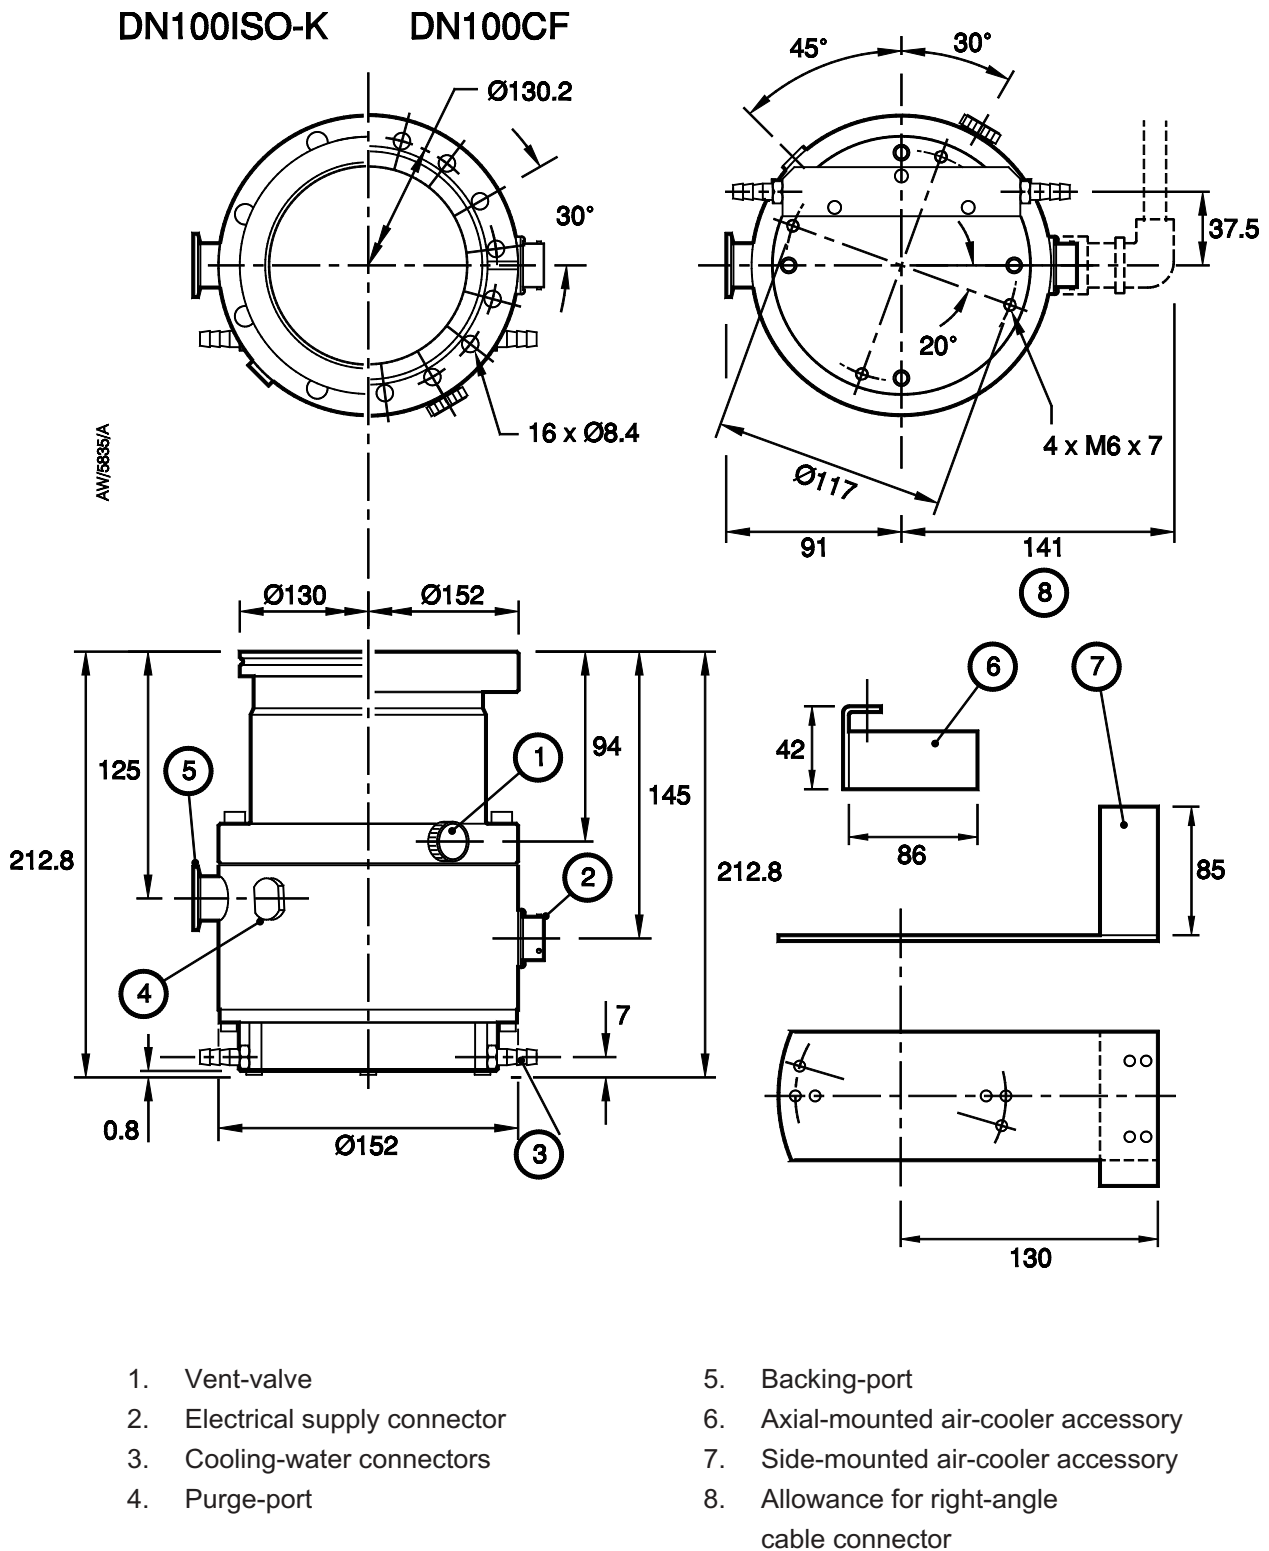

Figure 3 - EXT250M Turbomolecular Pump dimensions (mm)
Dimensions	See Figure 3
Ensure that the base of the EXT250M pump is securely fixed to a firm support (refer to Figure 3 for the fixing hole details). If the pump supports the weight of the vacuum system, the mass of the vacuum system must be no more than 20 kg.
- Fit cap-head fixing screws through the tapped fixing-holes in the base of the pump (see Figure 3): use M5 screws.
If necessary use the following procedure to remove the VRX vent-restrictor in the purge-port (Figure 3, item 4).